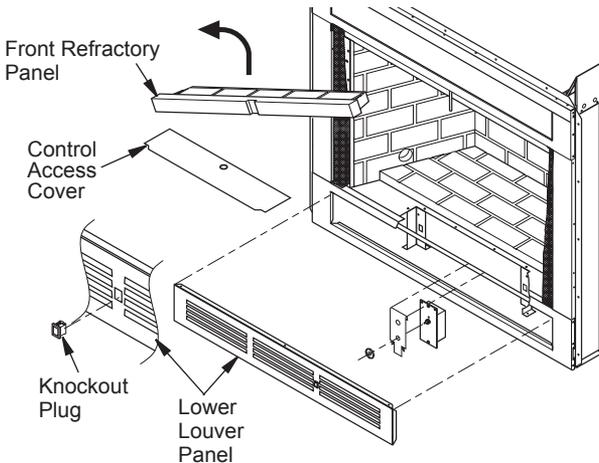

Figure 1 - Accessing Blower Compartment (Controls Not Shown for Clarity) B-Vent, Wood and Vent-Free Models
The BK blower can be installed in wood burning, B-vent and vent-free model fireplaces. Both the BK and BKT blowers can be installed in direct-vent model fireplaces. Blowers are installed by accessing the blower compartment through the lower louver panel or, on some models, through the control access cover under the front refractory panel (see Figure 1). The lower front louver panel can be removed easily, see *Removing Louver Panel*, page 3 for instructions.
For models other than direct vent, remove panel or stamped face louver by snapping out the front with a flat blade screwdriver (see Figure 1, page 2). Use caution not to scratch any surfaces. These panels can also be removed by inserting fingertips between slots and gently pulling out. DO NOT FORCE. The panels are actually held in place by means of a retention dimple embossed on the edge of the panel. To reinstall, place louver into cavity and push gently.
- Remove knockout plug from louver panel by depressing top and bottom retaining clips (see Figure 1, page 2).
3. Remove knockout plug from louver panel by depressing top and bottom retaining clips (see Figure 1, page 2).